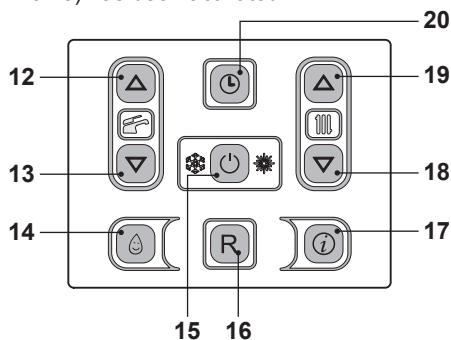
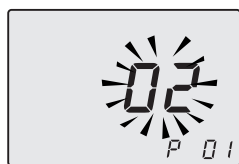
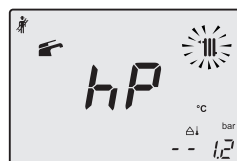

Fig. 10.22
Fig. 10.23
Fig. 10.25
- Enter in "programming mode" by sequentially pressing and holding in keys, 15 - 18 and then 19 (Fig. 10.22) for 10 seconds until the letters **P01** are displayed on the LCD display, indicating that "parameter 01" (Fig. 10.23) has been activated.
- Press keys 18 and 19 (Fig. 10.22) at the same time until the LCD display displays the letters **LP** that alternate with the heating water temperature value (e.g. **45**), indicating the activation of the "flue sweep function" at minimum output (Fig. 10.24).
- By pressing 19 (Fig. 10.22) it is possible to change power in flue sweep mode: with the letters **hP** on the LCD display which alternate between the heated water temperature (i.e. **32**), we are in the "flue sweep function" at the minimum power during heating (Fig. 10.25).
- Press keys 15 - 18 - 19 (Fig. 10.22) at the